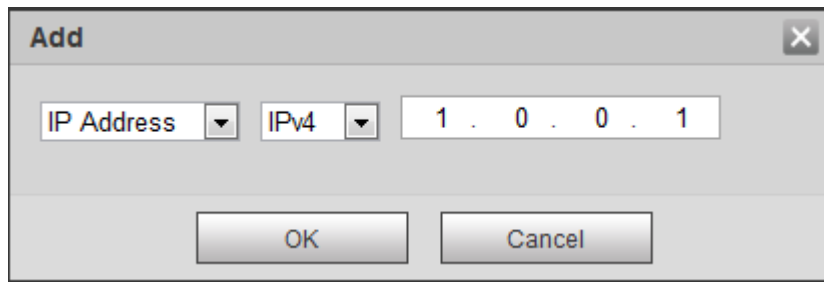

Figure 5-154
- The Add interface is displayed. See Figure 5-154.